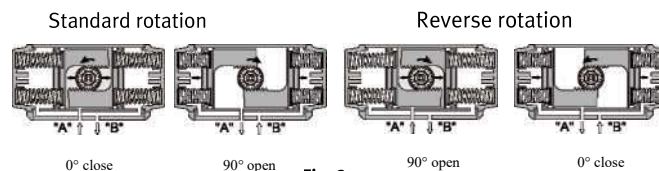

Fig. 2
2.2 Spring return actuator (see Fig. 2)